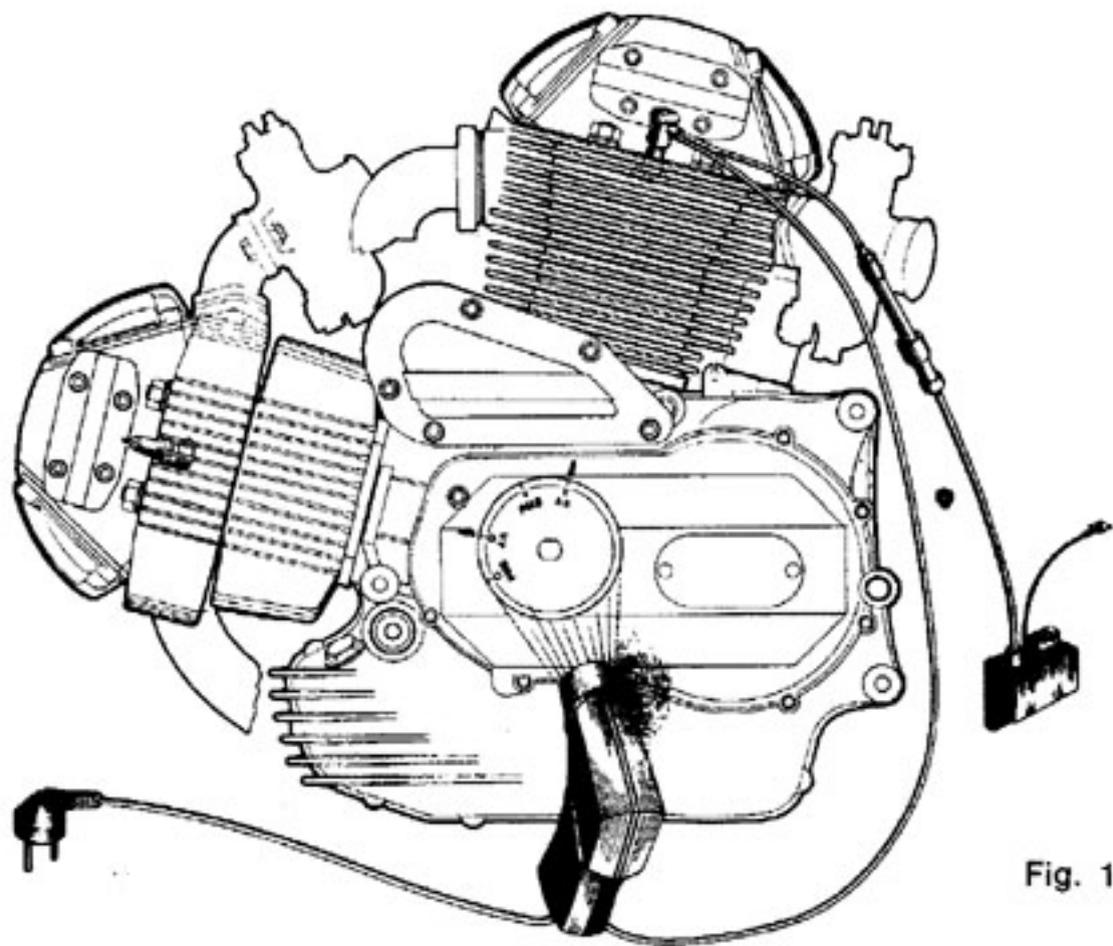

Fig. 12
**Advance checking through stroboscopic light (see Fig. 12).**